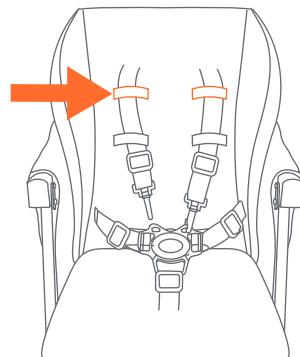

Fig. 13a
13) • The shoulder straps of the 5-point harness have 3 attachment positions (Fig. 13a). Select the position that places the shoulder strap level with, or below, the top of the child's shoulder (Fig. 13b).